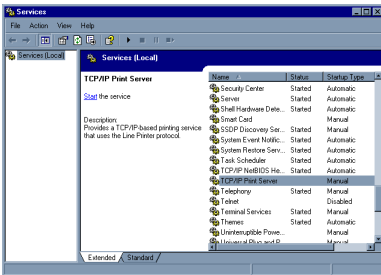

Figure 9—Services Dialog
6. From the Start menu, select **Settings > Control Panel > Administrative Tools > Services**. This opens the Services dialog (see Figure 9).